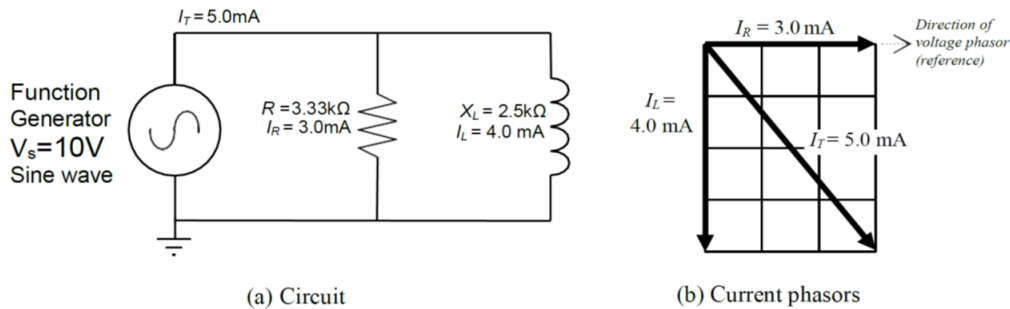

Figure 5.2: Parallel RL Circuit
Figure 5.2 shows a parallel RL circuit and its current phasor diagram. Here we have assumed all components are “ideal”. The current in an ideal inductor is at -90° from the voltage reference, because the current lags the voltage in an inductor. However, practical inductors contain resistance that often is large enough to affect the phasor. The effect of the inductor’s resistance on the phasor diagram would be to reduce the angle between the I_L and I_R . In a practical circuit, this angle will be slightly less than the -90° of a pure inductor. This experiment will illustrate this difference between the approximation of circuit performance based on ideal components and the actual measured values.
- Using the computed peak-to-peak currents from Table 5.4, draw the current phasor diagram for the circuit. Ignore the effects of the sense resistors. Your diagram should look somewhat similar to Figure 5.2(b).